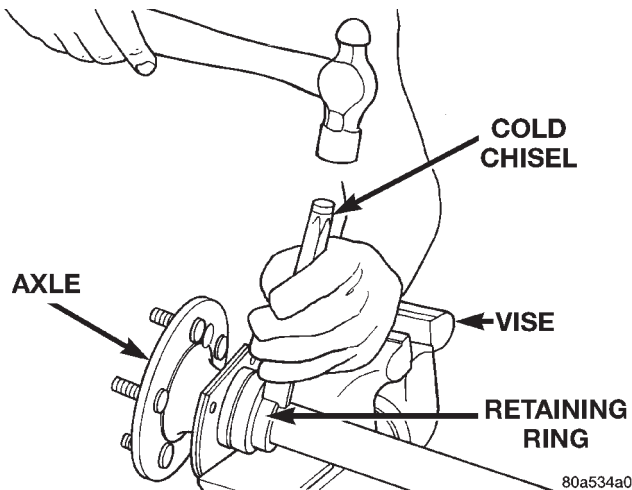

Fig. 26 Cut Retaining Ring
- (3) Using a suitable cold chisel, cut retaining ring across drilled hole. (Fig. 26)